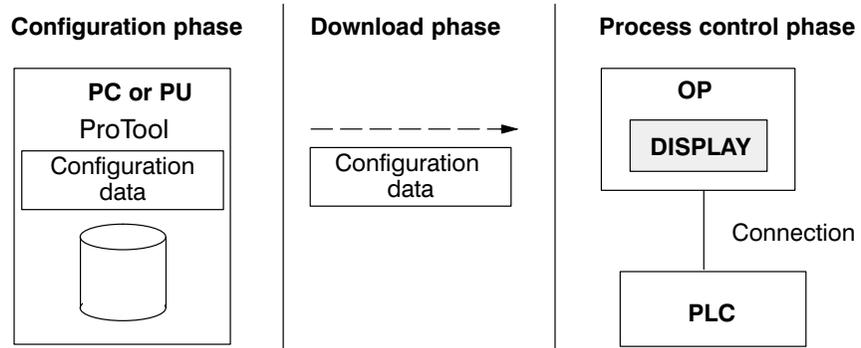

Figure 1-1 Configuration Phase, Download Phase and Process Control Phase
Configuration data	Configuration is performed on a PC or a programming unit (PU). The configuration then has to be compiled under ProTool and downloaded to the OP. If connected to the PLC, the OP displays the current values. Figure 1-1 shows the different phases in which work is performed with configuration data.